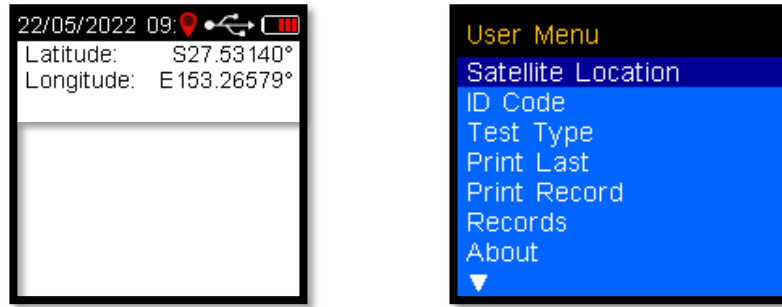

Figure 66 GPS Position on Menu Screen
- Press the Down button to highlight Satellite Location (Refer Figure 66). The preview bar will display current state of GPS location fix.
Once the GPS location is acquired, it will be visible on the menu screen (Refer Figure 66).